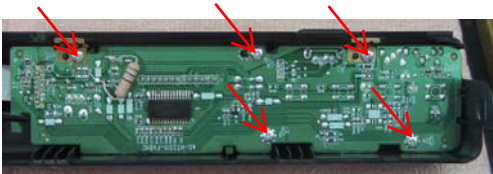

Figure 4
**Step4** : Dismantle Front Control Board,remove 5 screws (Figure 4 )